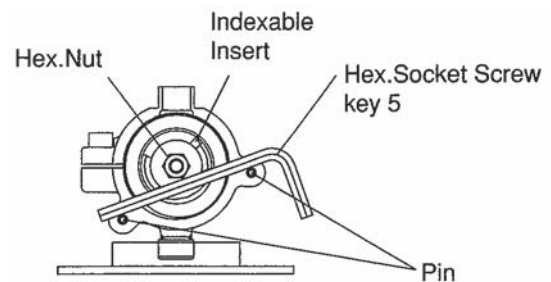

Fig. 9
- (2) Use the accessory Hex. Socket Screw key 5 to fix the holder. (Fig.9)
- (1) Use the accessory Hex. Socket Screw key 5 to fix the holder rotation. (Fig.9)